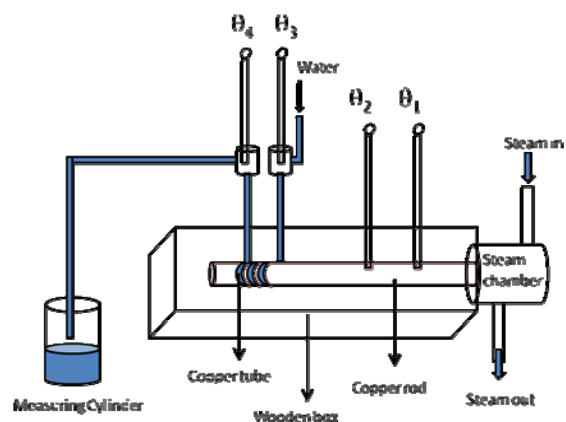

Fig.01
' m ' is the mass of water, ' s ' is specific heat of water, ' t ' is the time of flow of water in steady state, ' A ' is the area of cross section of copper rod, ' d ' is the distance between the thermometer T_1 and T_2 and $\theta_1, \theta_2, \theta_3, \theta_4$ are the temperatures of thermometer T_1, T_2, T_3 and T_4 respectively (Fig.01).
3. Mount the thermometers T_3 and T_4 as shown in Fig.01.
11. Calculate the coefficient of thermal conductivity (K) of given material of rod using given formula.